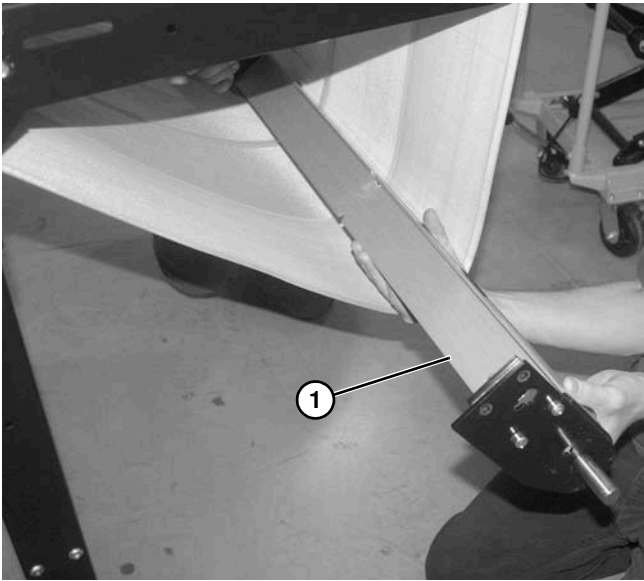

Figure 119
7. Remove drive tail end (Figure 119, item 1).